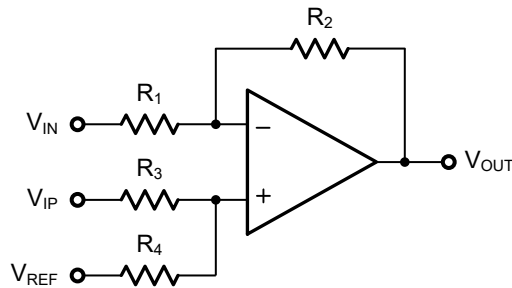
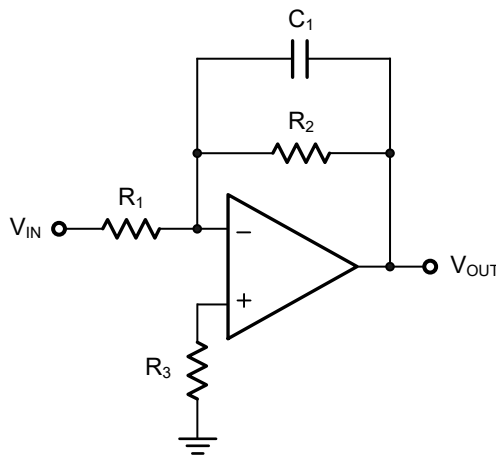

Figure 4-1 Differential Amplifier
Figure 4-2 Low Pass Active Filter
with load capacitance is a requirement of the application, the two strategies to consider are (1) using a small resistor in series with the amplifier's output and the load capacitance and (2) reducing the bandwidth of the amplifier's feedback loop by increasing the overall noise gain. Figure 4-1 shows a unity gain follower using the series resistor strategy. The resistor isolates the output from the capacitance and more importantly, creates a zero in the feedback path that compensates for the pole created by the output capacitance.
The circuit in Figure 4-2 is an improvement to the one in Figure 4-1. R_F provides the DC accuracy by feed-forward the V_{IN} to R_L . C_F and R_{ISO} serve to counteract the loss of phase margin by feeding the high frequency component of the output signal back to the amplifier's inverting input, thereby preserving the phase margin in the overall feedback loop. Capacitive drive can be increased by increasing the value of C_F . This in turn will slow down the pulse response.